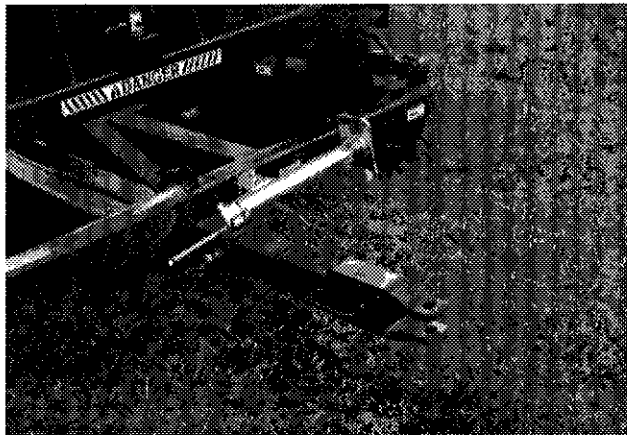

Figure 20
- 5) Adjust tongue to it's most inward position. If there is a risk of interference with the front of the tractor, it is recommended to remove it. (Fig. 20)